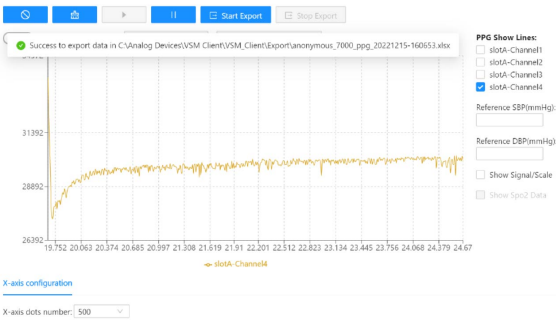

Figure 39. Export Successful
5. Click **Start Export** to begin exporting the data received (see Figure 37), and click **Stop Export** to stop exporting the data locally (see Figure 38). The exported data is saved in an .xlsx file. If the export is successful, a **Success to export data** pop-up appears (see Figure 39) noting the location of the .xlsx file as follows: **C:\Analog Devices\VSM Client\VSM_Client\Export**. In the **Export** folder, the file name notes the date, time, and corresponding function of the export (see Figure 40).